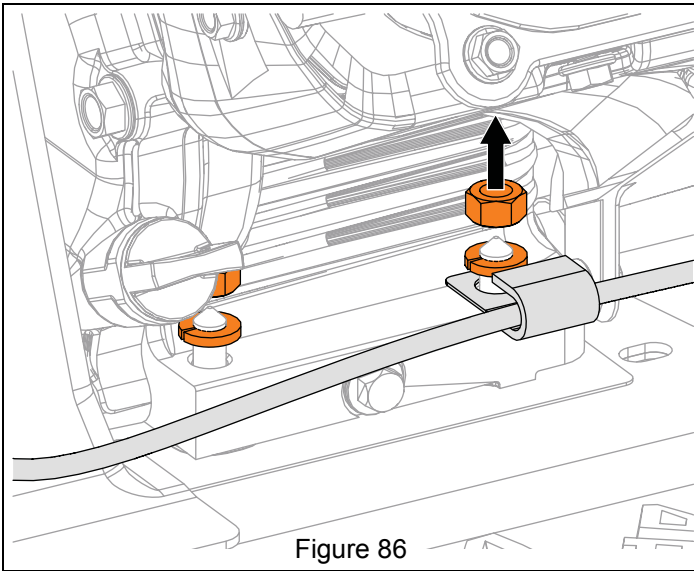

Figure 86
4. Under dash panel, remove hardware retaining upper traction clutch cable to clutch lever and remove cable. See Figure 86.
7. Reinstall upper traction clutch cable to traction clutch lever. Secure with one flat steel washer and hairpin. See Figure 86.